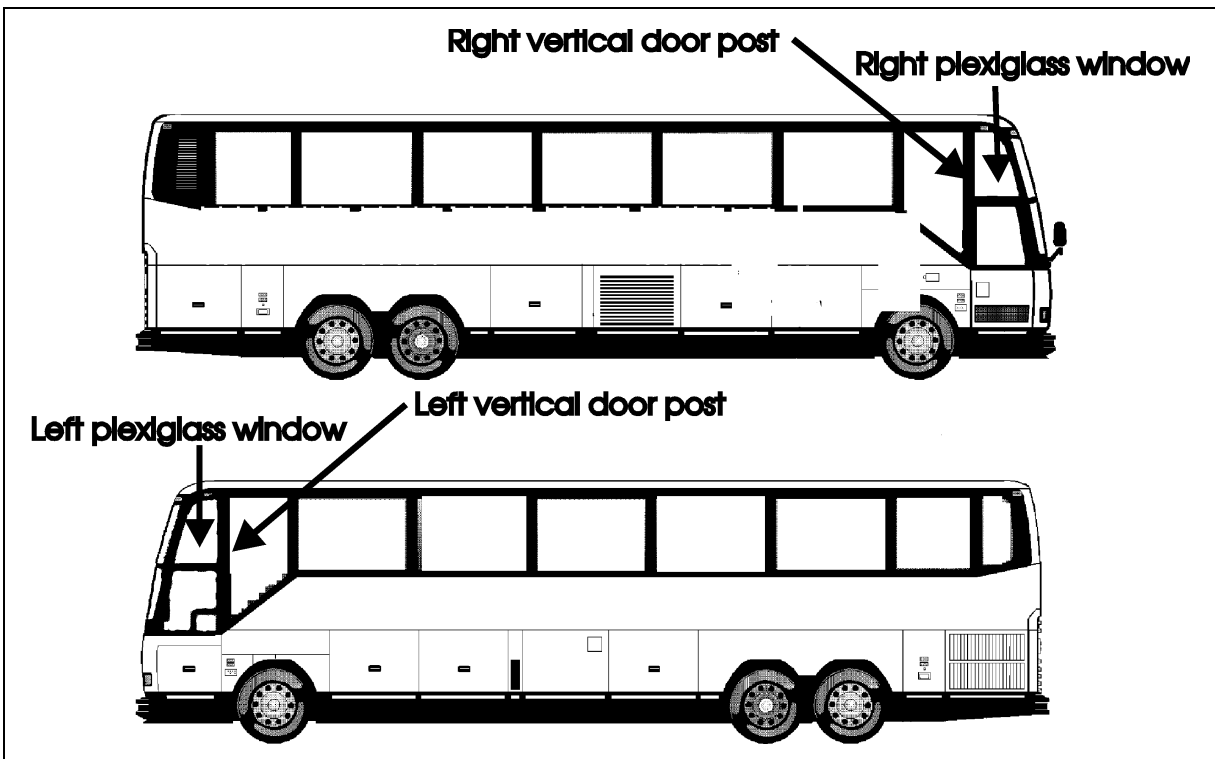

FIGURE 1: PLEXIGLASS WINDOWS LOCATION
1. Locate the two plexiglass side windows forward and on both sides of vehicle (Fig. 1).